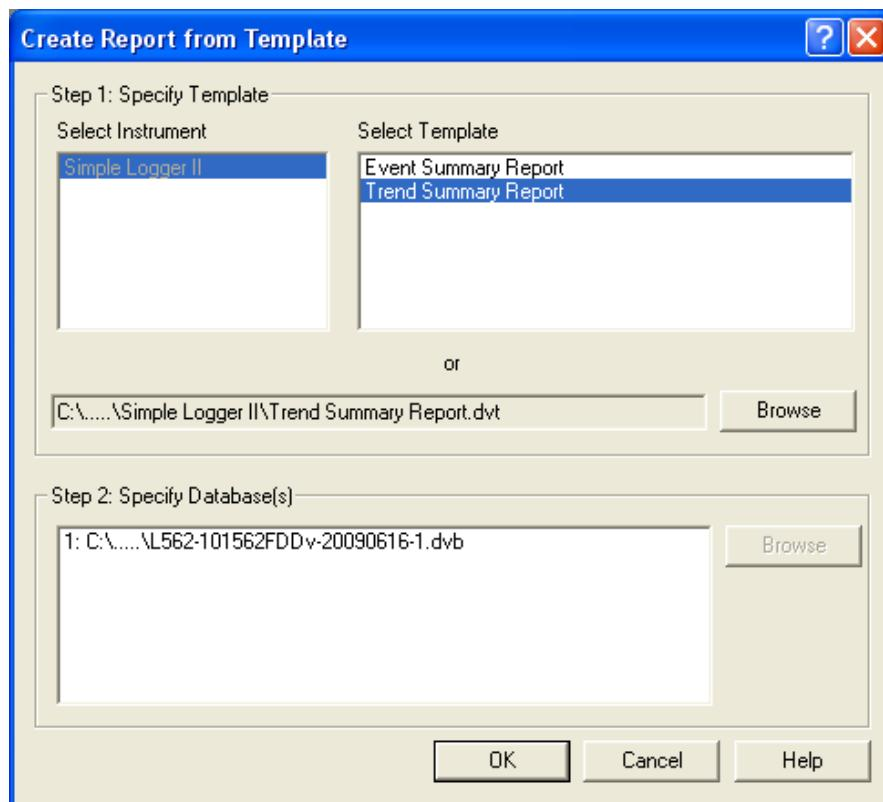

Figure 2-9
- 5) a "YES" reply moves the main window of DataView® to the background; its place is taken by a new help window for the definition of new plots from predefined models (see figure 2-9 below);